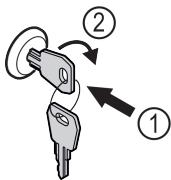

Fig. 68 Example illustration
- ▶ Insert key *Fig. 68 (1)*.
- ▶ Turn key clockwise by 90° *Fig. 68 (2)*.